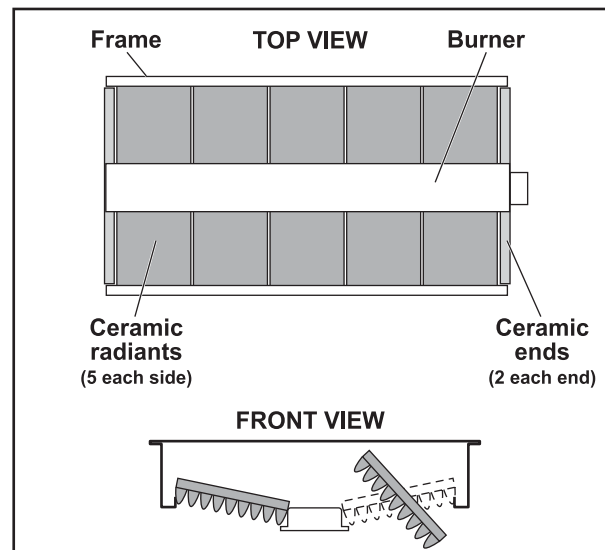

Figure 6
- a) Insert ceramic radiant brick ends at each corner of the burner frame. Four are required for each burner (Fig. 6).